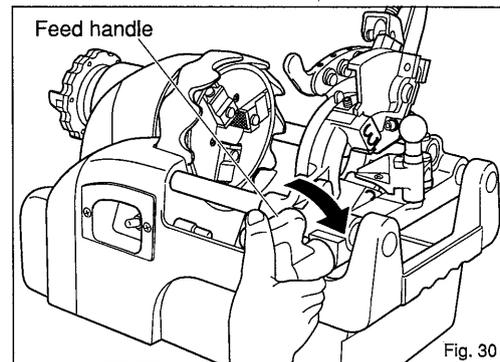

Fig. 30
- (2) Set the switch to the ON position. Oil will be supplied from the die head automatically.
- (3) Turn the feed handle clockwise and press the die head against the pipe to allow the dies to begin cutting (Fig. 30).
- (4) Once three or four threads have been cut, the remainder will be cut automatically. When the prescribed thread length is reached, the dies will be released by the auto-open lever.
- (5) To complete the threading procedure, turn the feed handle anti-clockwise to release the die head from the pipe.
- (6) To continue cutting threads of the same size, lift the guide set knob and check to make sure that the die head is in the proper position each time before beginning the threading process.